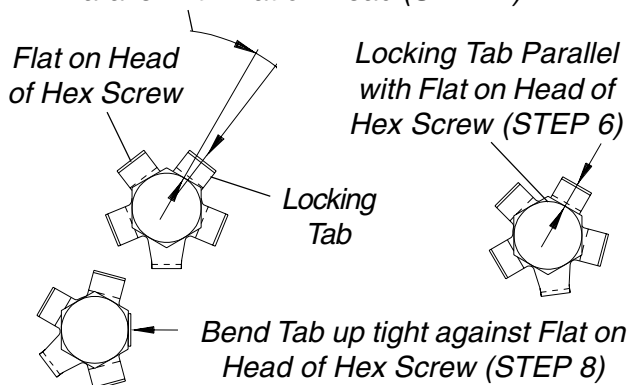

FIGURE 1 - REMOVING/INSTALLING DRIVE WHEELS
- If one (1) of the tabs on the locking tab washer is NOT parallel with one (1) of the flats on the head of the hex screw (FIGURE 1), **TIGHTEN** the hex screw until the closest flat and locking tab are parallel.
- Bend the parallel tab of locking tab washer up tight against flat of the hex screw (FIGURE 1).